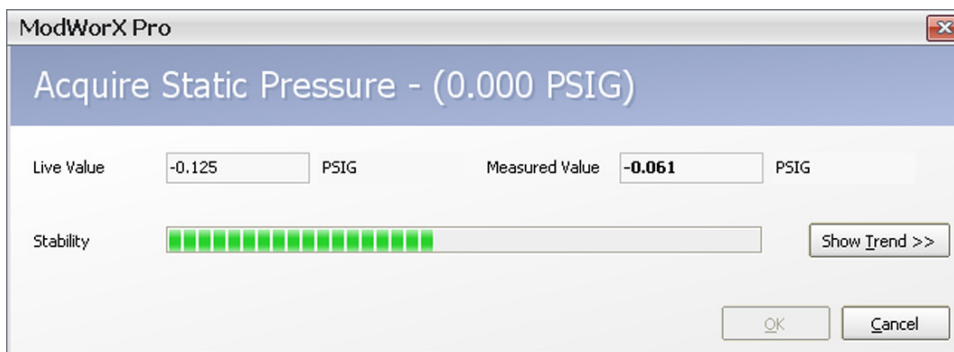
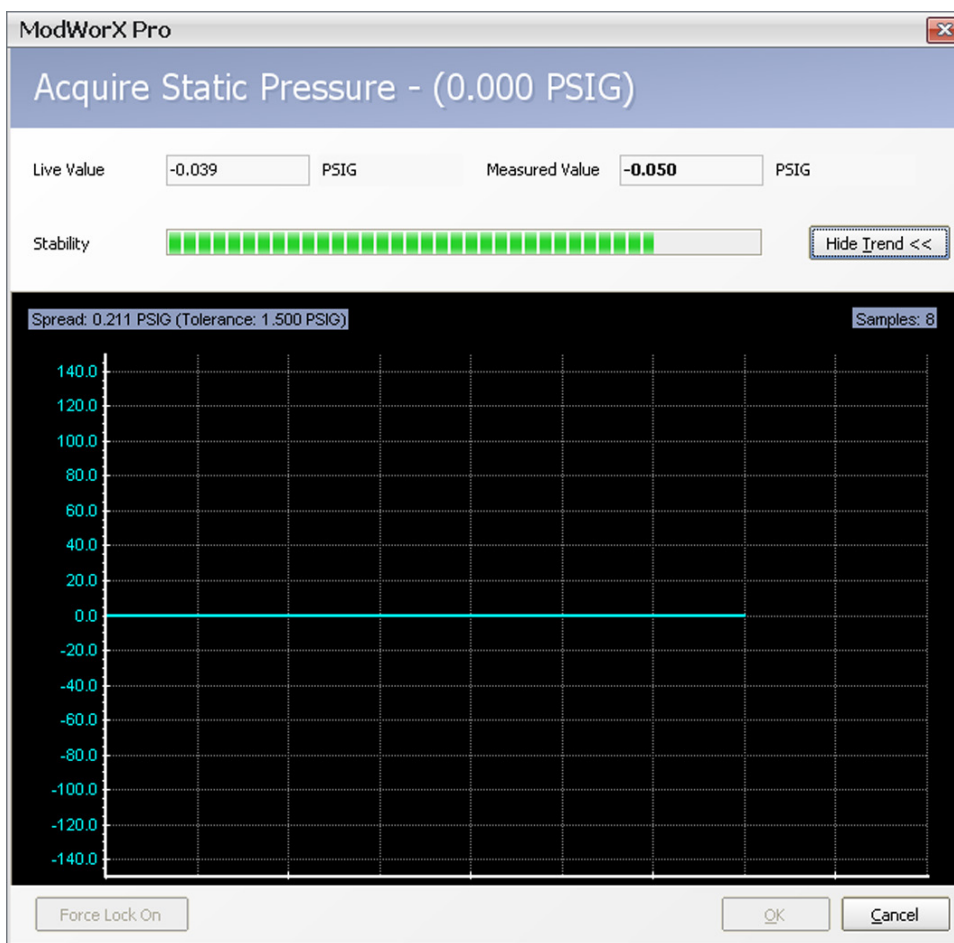

Figure 8.13
Figure 8.14
6. Enter zero (0) in this field, and click **OK**. A screen will appear, showing the live value, the measured value, and a stability bar showing the progression of the calibration (Figure 8.13). The live value is the instantaneous reading of the pressure input, and the measured value is the average of all samples read.
7. To view the progression of the calibration process in a graph, click **Show Trend** (Figure 8.13). This graph view also shows the spread of values and the number of sample readings taken (Figure 8.14).